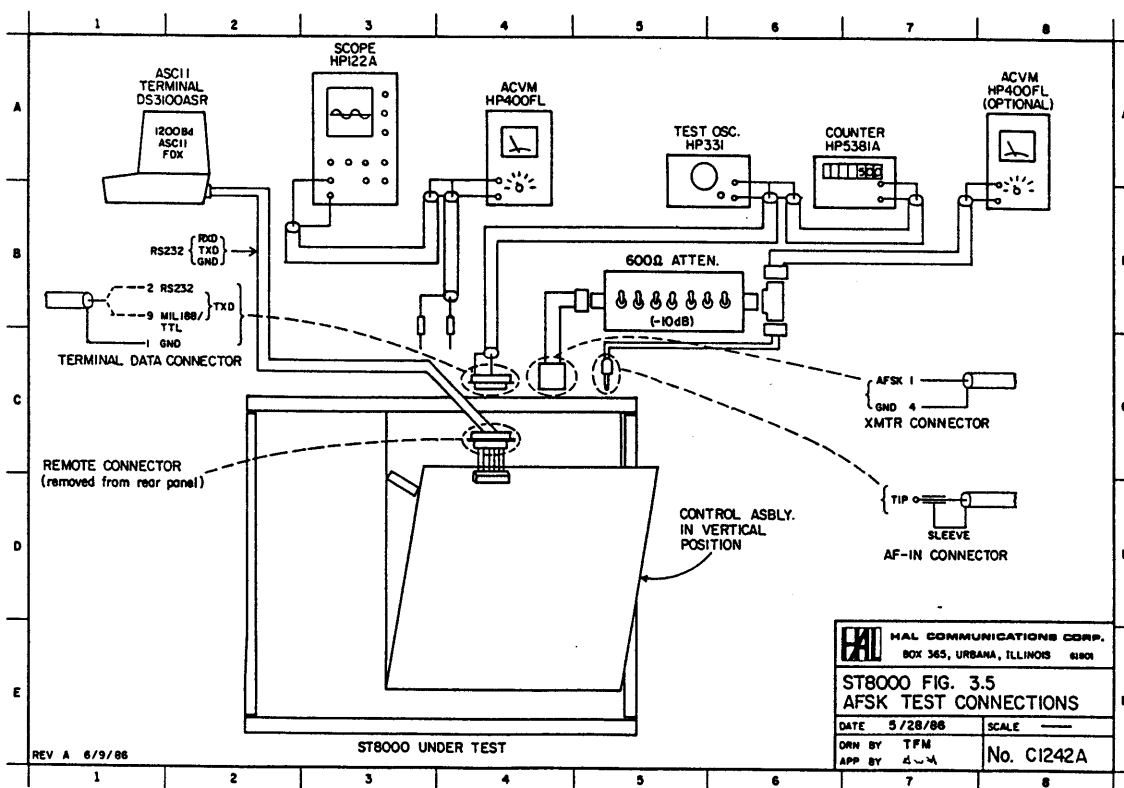

FIGURE 3.5 AFSK TEST GENERATOR CONNECTIONS
(2) Refer to Figure 3.5 and connect the AFSK output to the ST8000 audio input through a step attenuator set to -10 dB.